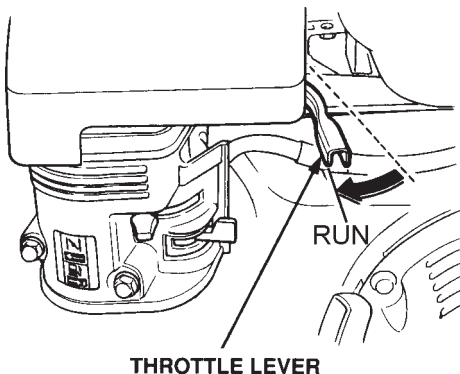

Figure 13. Throttle Lever (Run)
- To begin pumping, place the throttle lever (Figure 13) in the "RUN" position.